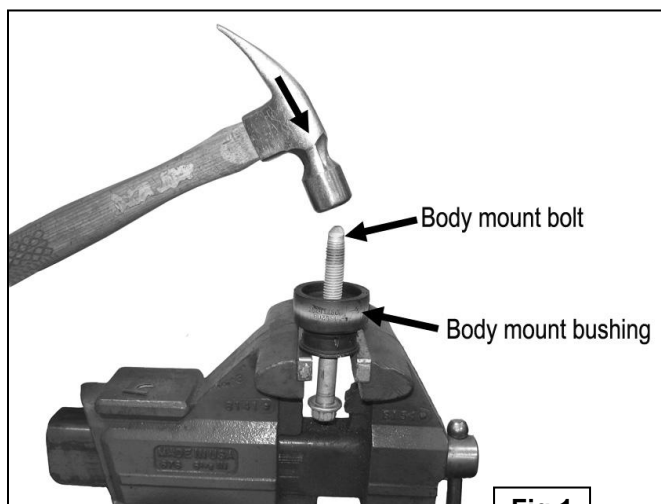

Fig 1
- Starting on the driver side, remove the factory front body mount bolt from the underside of the cab. **NOTE:** Factory body mount bolts will need to be driven out of and back into the steel washer molded into the rubber bushing. Take precautions to avoid damage to the threads or the washer and bushing, **(Figure 1)**.